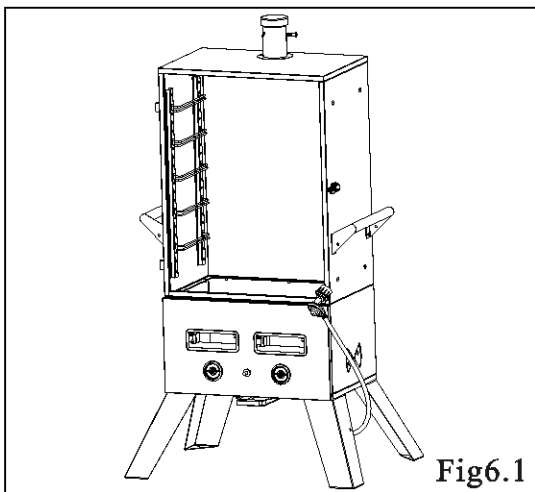

Fig6.1
Procedure: Place (5) Cooking Grid Supports on EACH side of the Smoker Cabinet at the same height opposite each other. These will hold the Cooking Grids when they are slid in place. Fig6.1